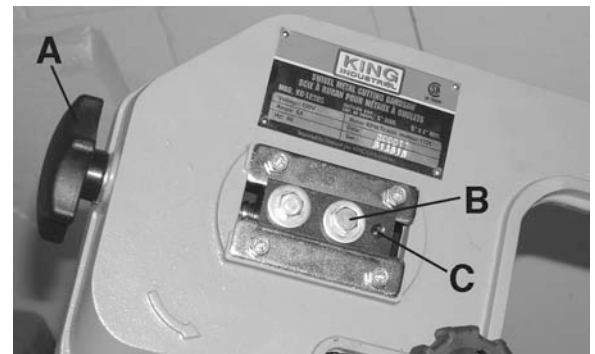

FIGURE 19
- 4) Loosen the blade guides, then loosen the blade tension knob (A) Fig.19 counterclockwise and slip the blade off the wheels.
- 1) Turn the blade tension knob (A) Fig.19 counterclockwise so that the blade loosens a little.
- 2) Loosen but do not remove the wheel tilting mechanism hex. bolt (B).
- 3) Adjust the tracking of the blade by adjusting the set screw (C). Tightening this set screw will move the blade closer to the shoulder of the wheel. Loosening this set screw will move the blade away from the wheel shoulder.